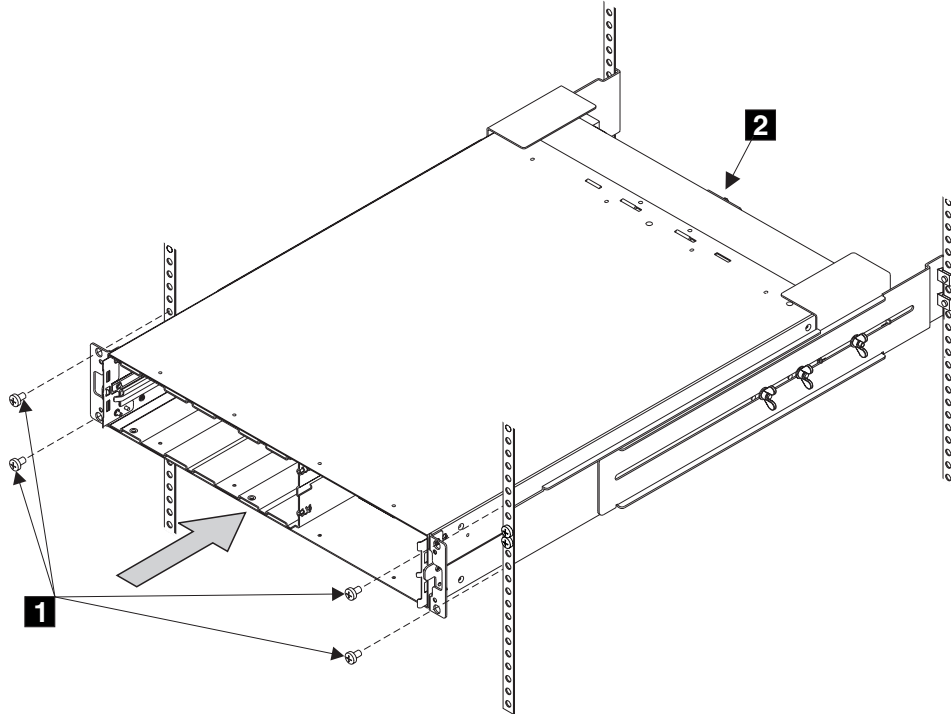

Figure 296. Replacing the 2145 uninterruptible power supply into a rack
5. Install the front flathead screws **1** (see Figure 296 on page 622).